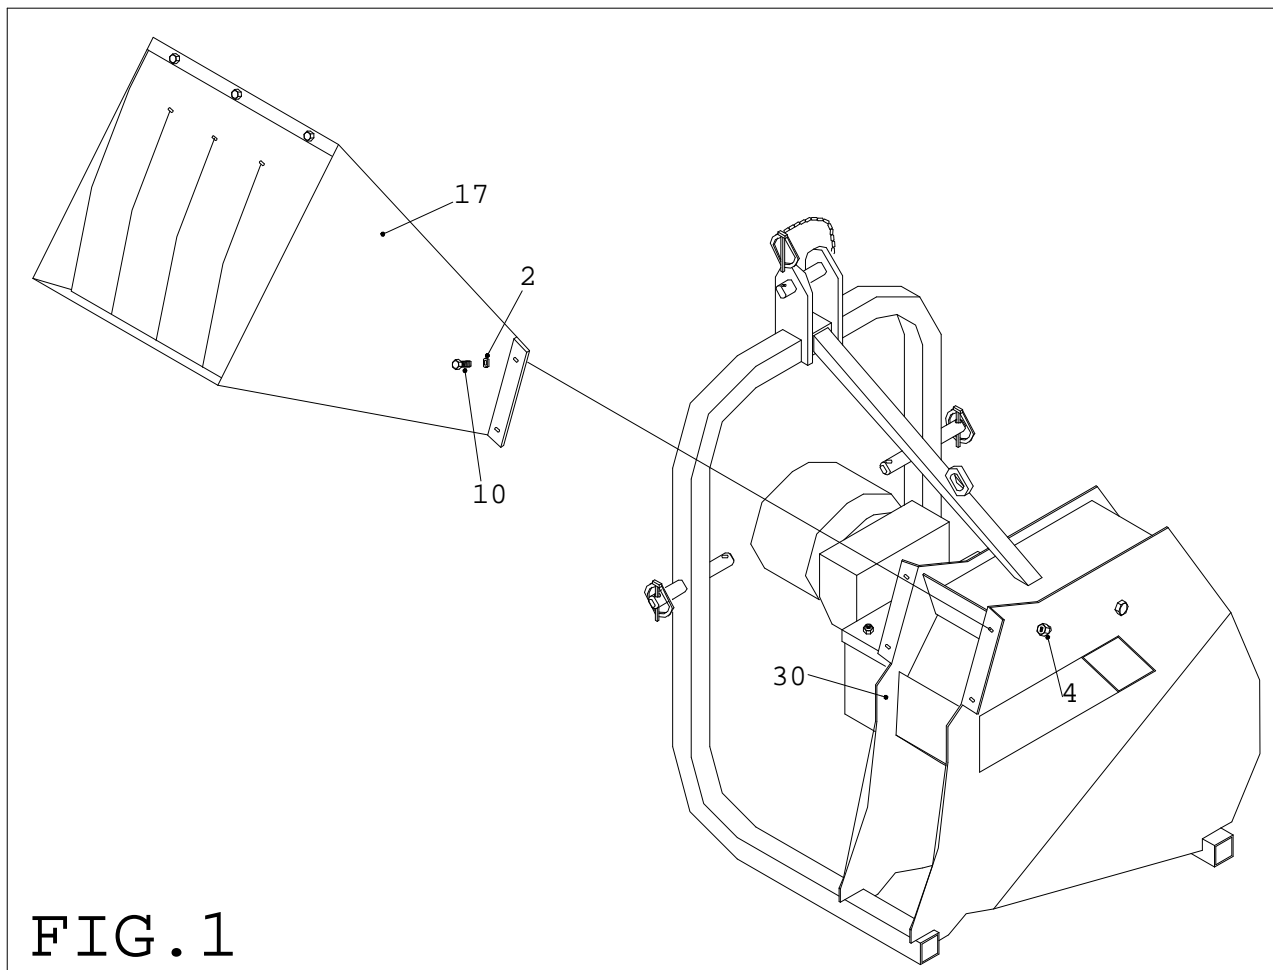

FIG. 1
The Bio-Shredder R220 is supplied disassembled for problems of packing. Only in particular cases it can be delivered completely assembled and so ready to be used . When a disassembled machine is bought , the exploded view (Fig.1), the bill of materials and the indications concerning the correct assembly of the machine must be followed. It is very important that only expert and authorized staff put into practice the assembly of the machine .
Take the hopper (17) and trying to fit together its holes with the ones of the machine body (30), fix the two parts with the 4 screws (10), 4 washers (2) and 4 screw nuts (4), see FIGURE 1.